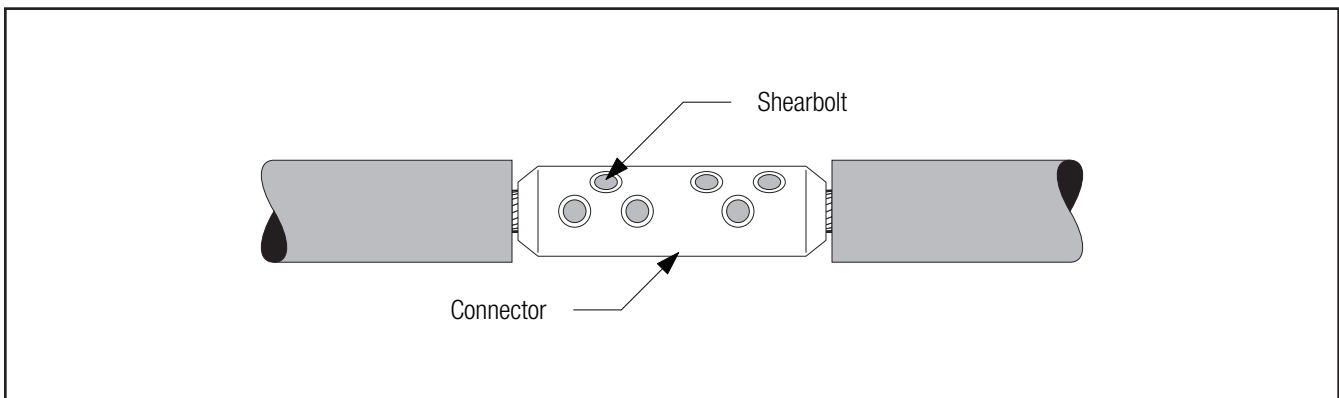

Figure 5
- 3.2 Install 3M™ Shearbolt Connector QCI 2-250 according to the instructions included with the connector (Figure 5).